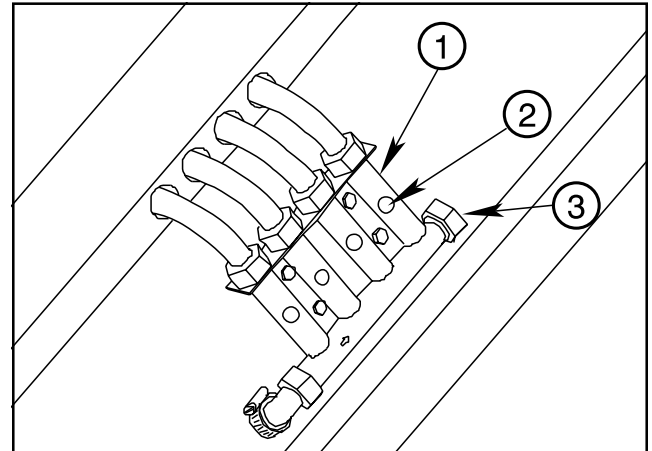

FIG 3.
2. When there is flow, all the floating balls should be at the same level. If a ball is lower than the others, this indicates a clogged spray nozzle tip. See FIG. 3.